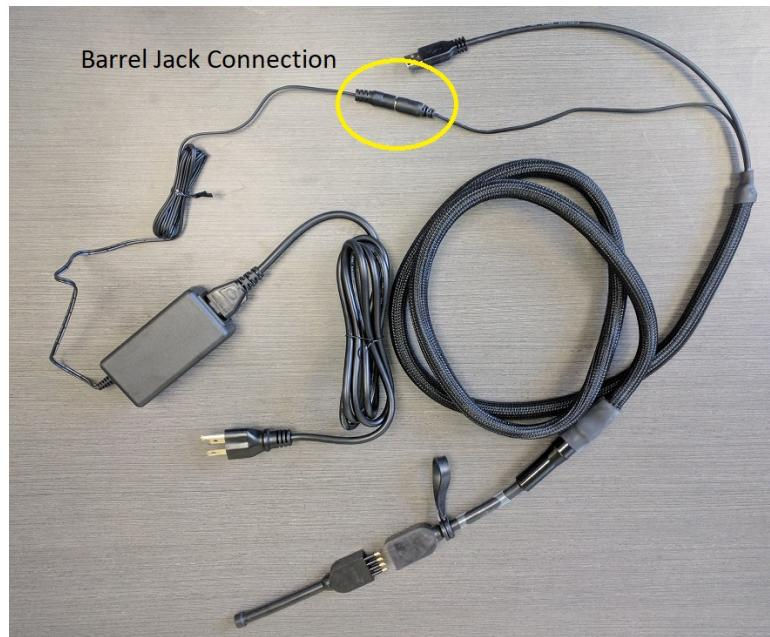

Figure 23: Instrument Deck Cable
3. Connect the barrel connector on the other end of the deck cable to the 12 W converter (Figure 23) and plug the AC power into your AC outlet. Then connect the USB to your computer using the supplied USB hub. The MicroRider-1000-G will turn on and Datalogging will start after 45 seconds.
- **Deck Cable (to stop datalogging):** Disconnect the barrel connector on the other end of the deck cable from the 12 W converter (Figure 23) or unplug the AC plug from your AC outlet.